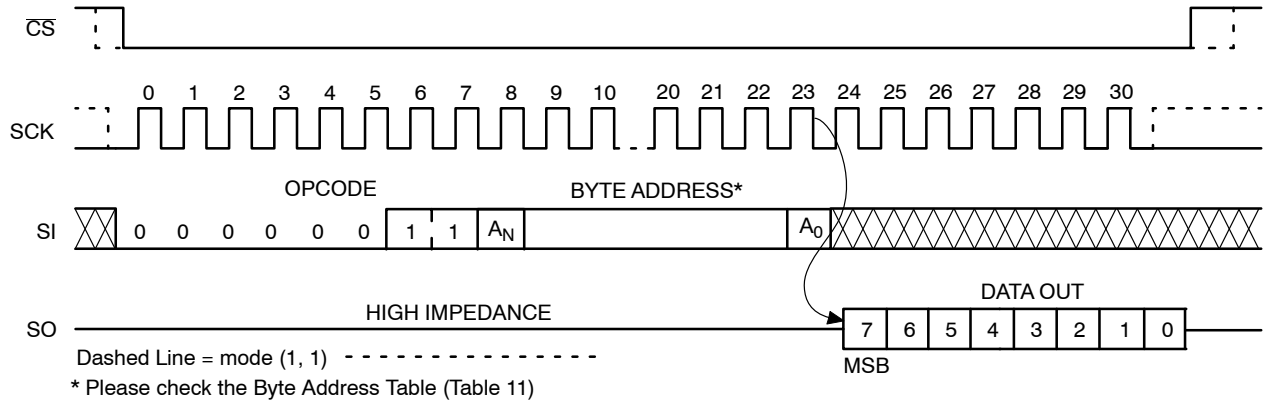

Figure 9. READ Timing
After receiving the last address bit, the NV25512 will respond by shifting out data on the SO pin (as shown in Figure 9). Sequentially stored data can be read out by simply continuing to run the clock. The internal address pointer is automatically incremented to the next higher address as data is shifted out. After reaching the highest memory address, the address counter “rolls over” to the lowest memory address, and the read cycle can be continued indefinitely. The read operation is terminated by taking CS high.
Reading the additional 128-byte Identification Page (IP) is achieved using the same Read command sequence as used for Read from main memory array (Figure 9). **The IPL bit from the Status Register must be set (IPL = 1) before attempting to read from the IP.** The [A6:A0] are the address significant bits that point to the data byte shifted out on the